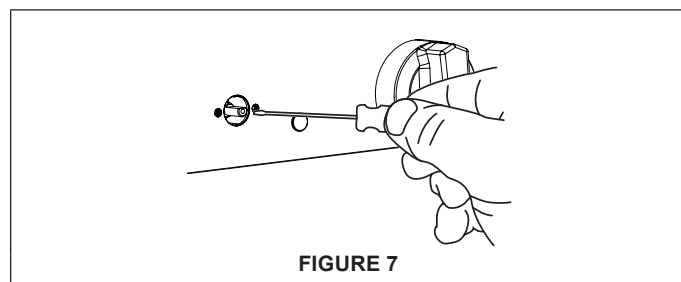

FIGURE 7
- Insert a small, flat-blade screwdriver into the valve shaft. Fit tip of screwdriver into small screw head at base of valve shaft. See Figure 7.